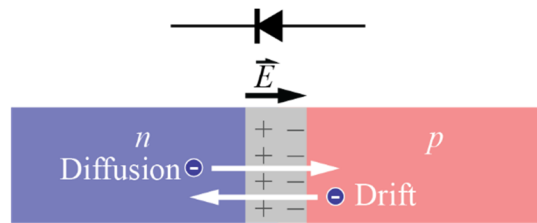
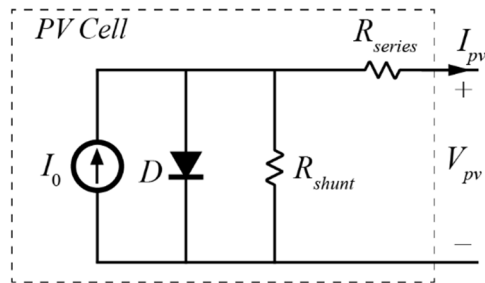
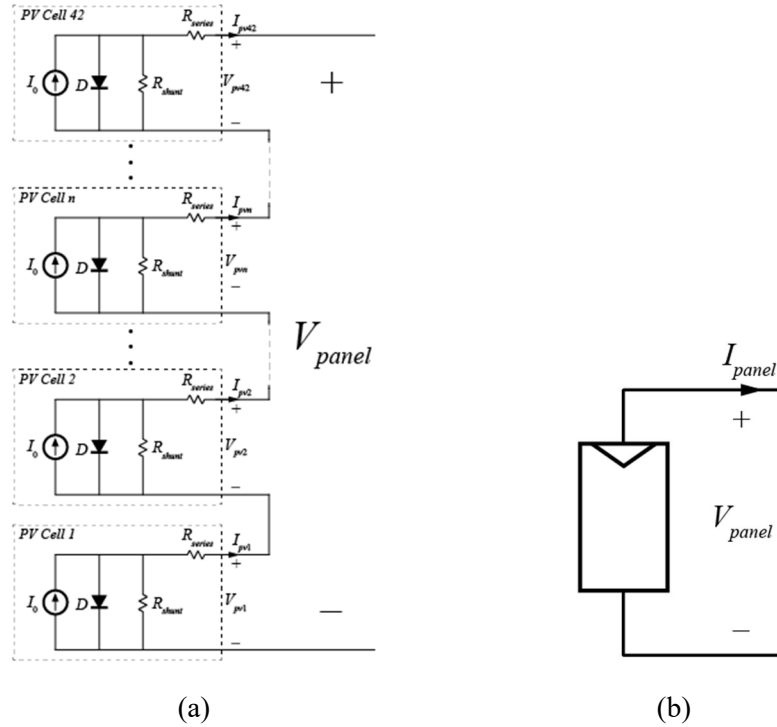

Fig. 1: Cross-section of a p - n junction in equilibrium
Fig. 3: Circuit model of PV cell
Fig. 4: (a) Circuit model of complete 42-cell PV panel and (b) schematic symbol for a PV panel
Photovoltaic (PV) cells are semiconductor p - n junction devices, much like diodes. In equilibrium, carrier motion due to drift (motion due to electric field) and diffusion (motion due to carrier concentration) are in balance and there is no external current in the diode. This state is shown in Fig. 1.
A simple PV cell model is given in Fig. 3
This panel consists of 42 cells in series, each of the form of Fig. 1. When combined, the complete panel is shown in Fig. 4.
Assume that the panel is well-modeled by circuits in Fig. 3 and Fig. 4. Find values of n , I_s , R_{shunt} , and R_{series} which produce a circuit model that matches your experimental measurements for this panel as closely as you can. You may assume that all 42 cells are identical. There may still be some error in the modeled characteristic relative to the measured one, even with the best parameters.